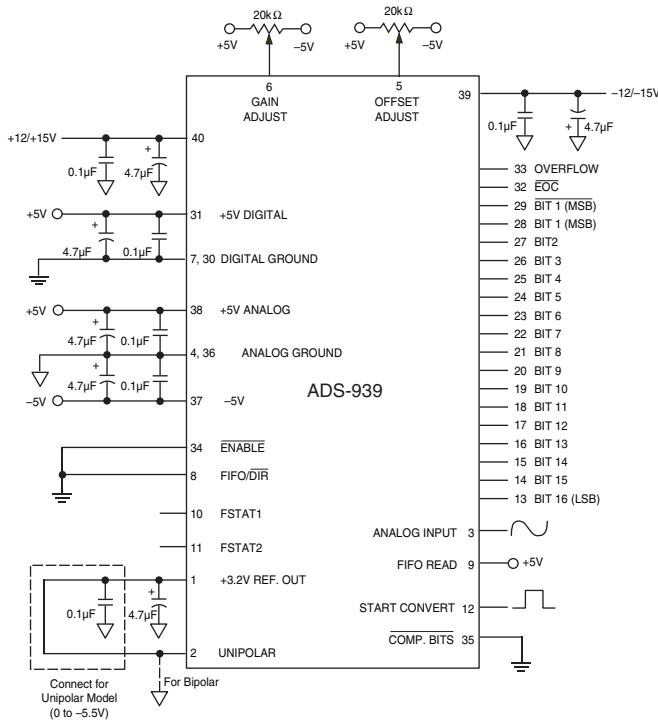

Figure 2. Connection Diagram
⑤ This is the time required before the A/D output data is valid once the analog input is back within the specified range.
⑥ See table 2a, Setting Output Coding Selection.
⑦ The minimum supply voltages of +4.9V and -4.9V for ±VDD are required for -55°C operation only. The minimum limits are +4.75V and -4.75V when operating at +125°C.
⑧ ±12V only or ±15V only required.
- The ADS-939A achieves its specified accuracies without the need for external calibration. If required, the device's small initial offset and gain errors can be reduced to zero using the adjustment circuitry shown in Figure 2. When using this circuitry, or any similar offset and gain calibration hardware, make adjustments following warm-up. To avoid interaction, always adjust offset before gain. Tie pins 5 and 6 to ANALOG GROUND (pin 4) if not using offset and gain adjust circuits.
Connect the converter per Figure 2. Any offset/gain calibration procedures should not be implemented until the device is fully warmed up. To avoid interaction, adjust offset before gain. The ranges of adjustment for the circuits in Figure 2 are guaranteed to compensate for the ADS-939's initial accuracy errors and may not be able to compensate for additional system errors.